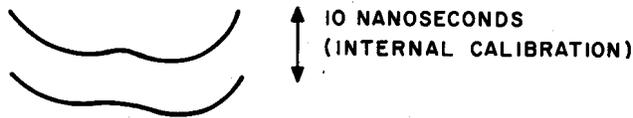
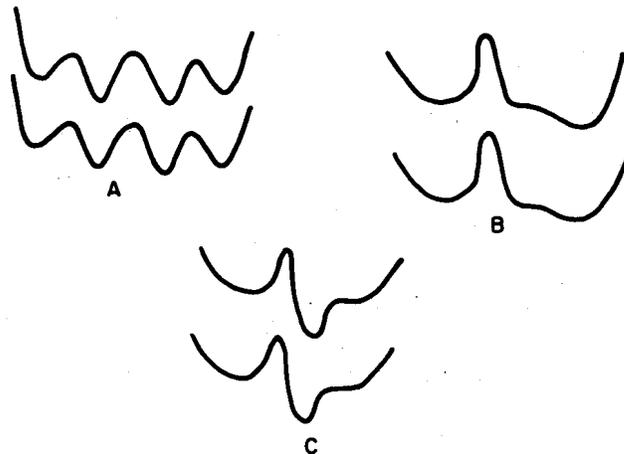

Fig. 2—Delay Pattern—Normal Hop
Fig. 3—Delay Patterns with Distortion
- 6 Adjust the HORIZONTAL PHASE control on the analyzer and the horizontal and vertical gain settings on the oscilloscope to obtain a pattern similar to that in Fig. 2.
- 7 The Fig. 2 pattern is typical of a radio hop without delay ripples. In cases where the top message channel noise loading curves are "flat bottomed", the delay characteristic will probably look like one of the patterns in Fig. 3. These shapes are analyzed in detail in Section 940-320-102. The action to be taken at this point will depend upon the shape found. If the ripples in Fig. 3A are found, Steps 8 through 10 should be used to characterize the curve. If patterns similar to Fig. 3B or 3C are found, refer to Section 940-320-102 for further information and analysis.